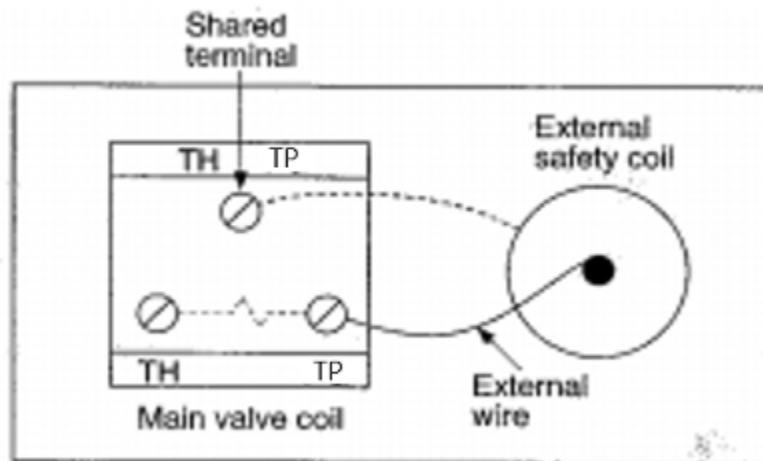

Figure 68. Millivolt gas valve wiring connections
Another configuration of a millivolt gas valve uses the thermopile to energizes both the pilot safety and the main valve circuits. You can see in Figure 68 that both the pilot valve and the main valve are wired in parallel to the Thermopile (TP). The thermostat (TH) will only turn on/off the main valve.